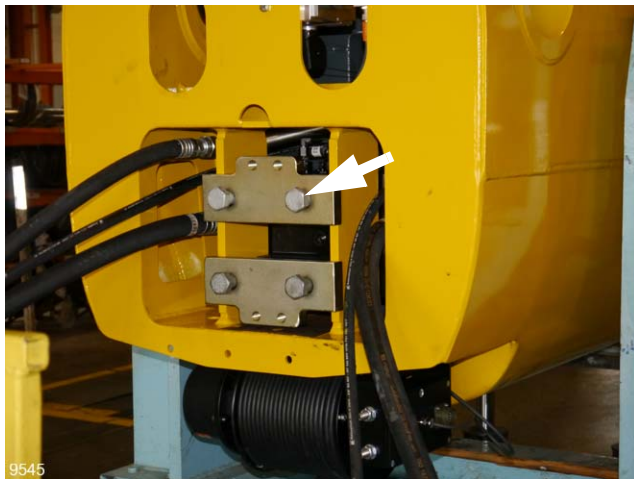

FIGURE 4-19
2. Remove the four cylinder retaining bolts (Figure 4-19) and two retaining plates.